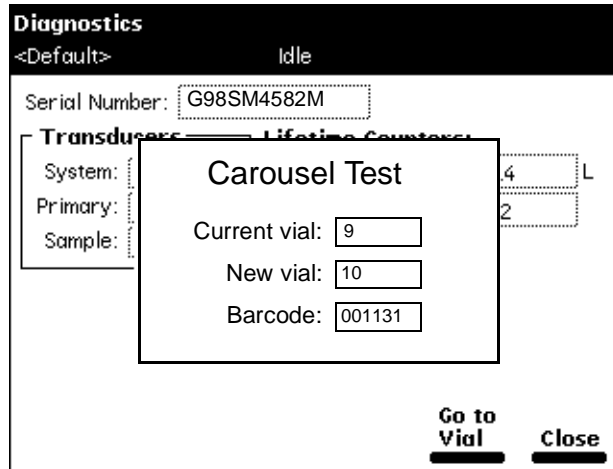

Figure 8-17 Carousel Test Screen
1. Select **Carousel** in the Other Diagnostics screen, then press **OK**. The Carousel test screen appears (Figure 8-17).